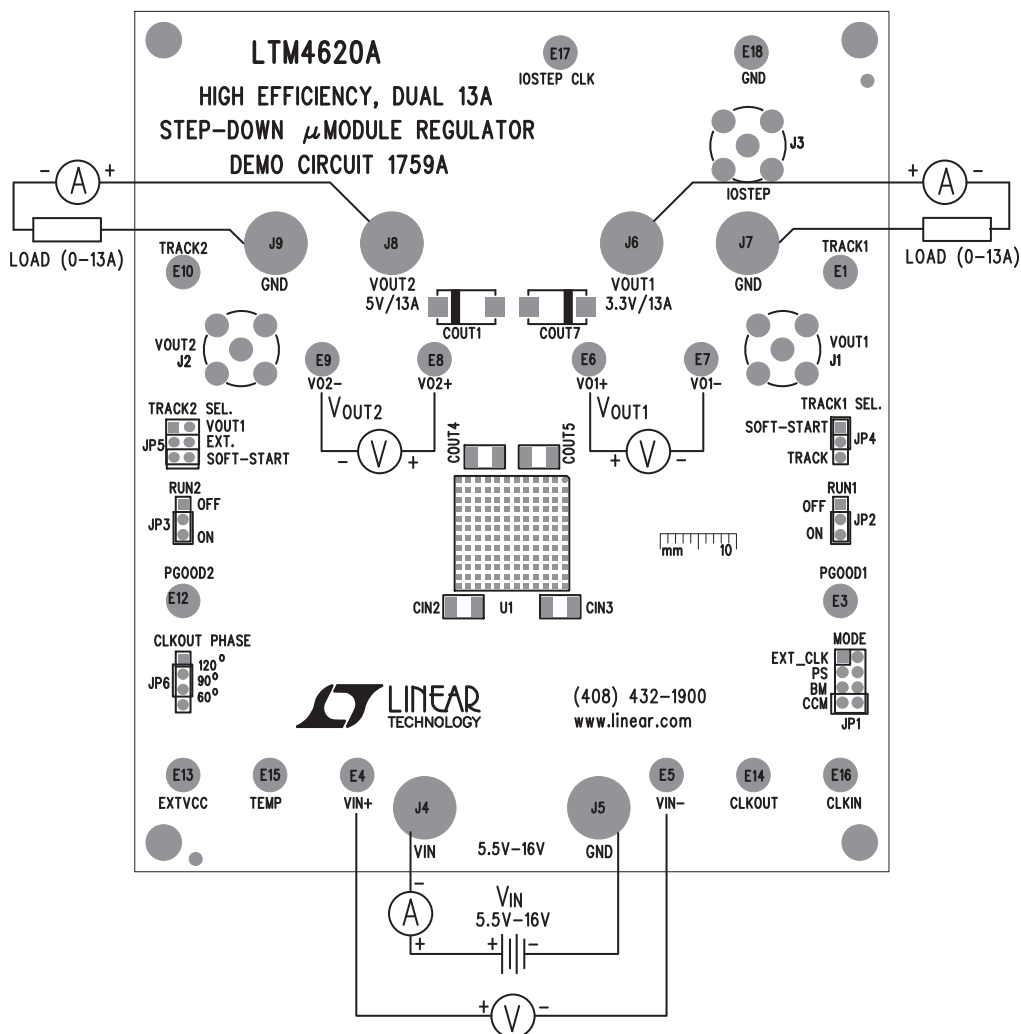

Figure 2. Test Setup of DC1759A
Demonstration circuit 1759A is easy to set up to evaluate the performance of the LTM4620AEV. Please refer to Figure 2 for proper measurement setup and follow the procedure below:
2. With power off, connect the input power supply, load and meters as shown in Figure 2. Preset the load to 0A and V_{IN} supply to 12V.